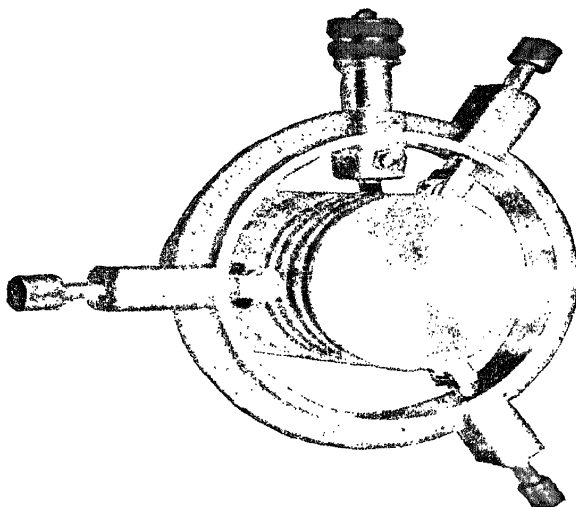
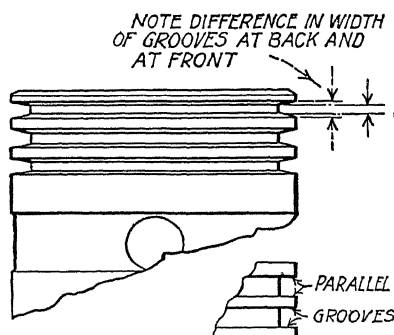

Fig. 37. Tool for Squaring-Up Piston-Ring Grooves
Fig. 42. Ring Grooves Will Wear Tapered
**Fitting Piston Rings in Piston-Ring Groove.** While piston rings are machined to very fine standards, it is generally found to be true that they will not fit the grooves of an old piston perfectly. They are made just a bit oversize to allow for some dressing down to bring them to size. Fig. 37 shows the tool used for squaring-up
**Tapered Ring Groove.** Experienced mechanics know that ring grooves will wear tapered, as illustrated in Fig. 42; that is, the ring groove is wider at the outer edge than at the back. This is due to the fact that the piston ring has been expanded against the side of the cylinder wall and has worn the outer edge of the ring lands more than
the back portion. It is difficult to fit rings to a piston which is in such condition. Rather than attempt to do this, it is recommended that a tool such as that shown in Fig. 37 be employed to clean out the ring grooves and to turn them parallel as shown in Fig. 42. This means that an oversize ring will need to be purchased. A similar piece of work may be done if the cylinder is mounted in the lathe. A square-nose tool should be provided, which would have exactly the same width as the ring to be installed. For instance, a  $\frac{3}{16}$ -inch ring might be installed in place of a  $\frac{1}{8}$ -inch ring or a  $\frac{1}{4}$ -inch ring might be installed in place of a  $\frac{3}{16}$ -inch ring.